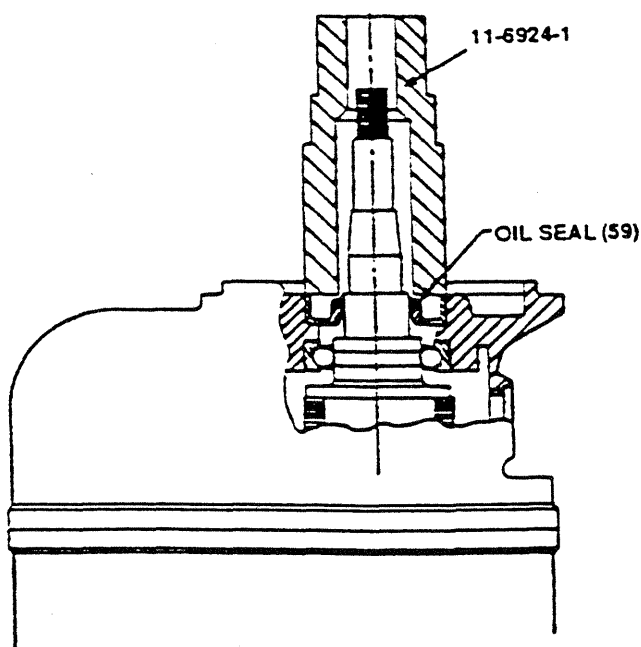

Figure 911. Installing Oil Seal.
9.2.7 Install Oil Seal (59) and Oil Slinger (55)
- A. Wipe lip of new oil seal (59) with SAE No. 30 oil. Carefully slide oil seal onto rotor shaft, avoiding contact with threads or keyway, and position seal squarely at edge of recess in housing. Place magneto in an arbor press with contact compartment rim supported by a block of wood and press oil seal into position with the 11-6924-1 Pressing Tool. See Figure 911.
- B. Rest cam securing screw on wooden block and press new oil deflector (55) onto rotor (54) up against sleeve bearing using the 11-6924-1 Pressing Tool.